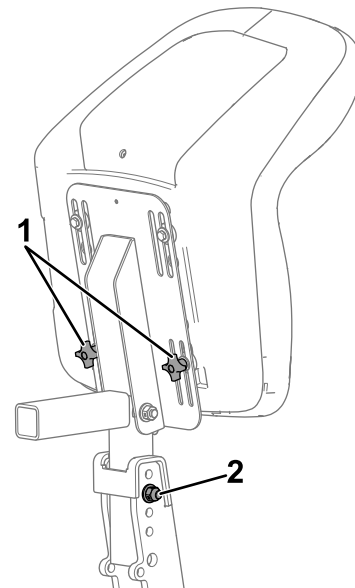

Figure 3
3. Loosen the knobs on the bottom of the seat (Figure 3) to slide the seat forward or backward as needed.
4. To adjust the seat height, remove the seat adjustment bolt and nut from the seat stand (Figure 3) and raise or lower the seat as desired.